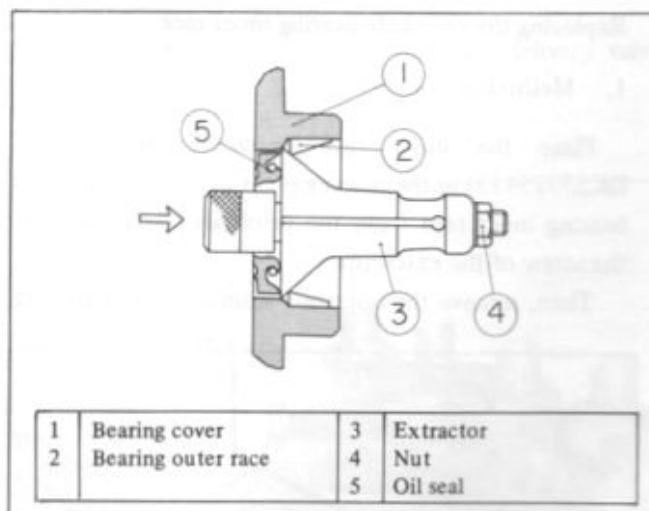

Fig. EF-63 Removing bearing outer race
1. Remove the bearing outer race from the bearing cover with the outer race extractor (special tool DK57925012). (Refer to Figures EF-63 and EF-64.)
As shown in Figure EF-63, set the tool in position, tighten the nut at the end of the tool, and insert the other end of the tool between the bearing outer race and the oil seal. Then, holding the bearing cover by hand, remove the outer race from its position by tapping the knurl part of the tool with a hammer.